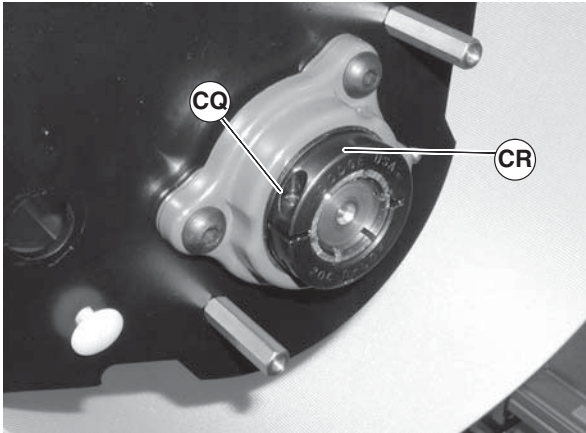

Figure 91
3. Loosen clamp screw (Figure 91, item CQ) and remove bearing collar (CR).
7. Reinstall bearing collar (Figure 91, item CR). Tighten clamp screw (CQ) to 95 in-lbs (11 N-m).